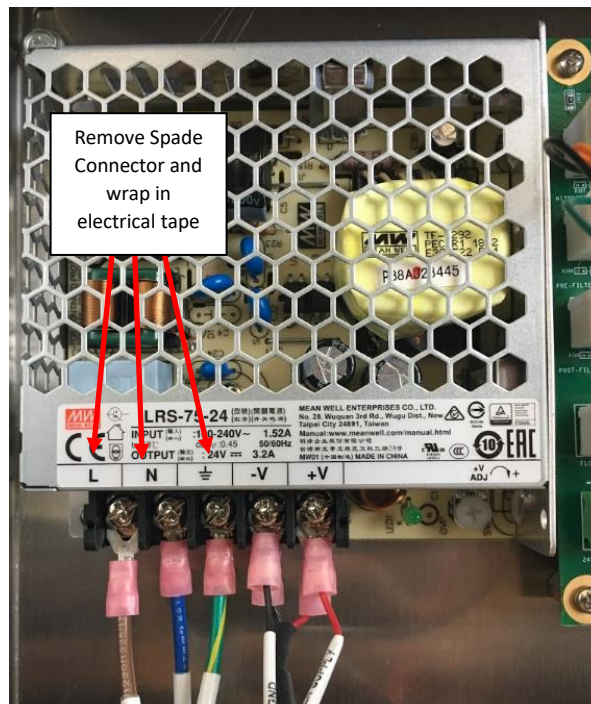

Figure 83: Live Terminal Location
i. Unplug the Fridge then remove the Rear Enclosure Panel to locate the Power Supply and disconnect the Spade Connectors from the L-Terminal, the N-Terminal, and the Ground Terminal and wrap it all individually in electrical tape before continuing. **See Figure 83.**